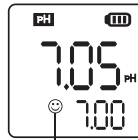

Figure 1
5. Dip the probe in pH 7.00 buffer solution, stir gently, and allow it to stand still in the buffer solution until a stable reading is reached. When measurement stability icon (©) appears and remains on the screen (see Fig 1); then short press CAL/ \leftarrow key to complete the one-point calibration. The tester returns to measurement mode and indication icon "M" will appear at the bottom left of the screen, indicating the middle point of calibration has been completed.